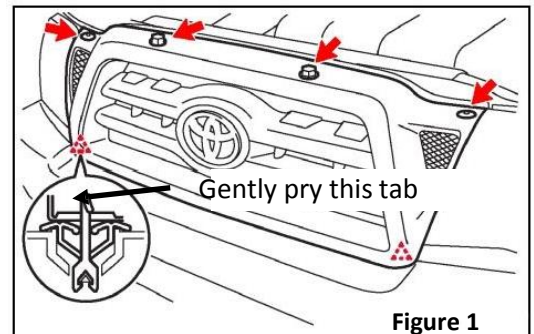

Figure 1
2. Remove the two screws securing the top center of the radiator grill. See **Figure 1** at right.
3. Using a clip remover or a flat head screwdriver, carefully remove the 2 clips on the top outer corners of the radiator grill. See **Figure 1** at right. Gently pry up on the center button of the clip to release.
4. Release the lower corners and center grill clips (3 clips total) from the lower back side of the grill (radiator side) near the junction of the plastic bumper cover and the bottom of the grill. These clips release in the same fashion as the top two clips. The location of the lower corner clips are indicated by a dotted triangle in **Figure 1**. The third clip is between the two corners at the centerline of the vehicle.